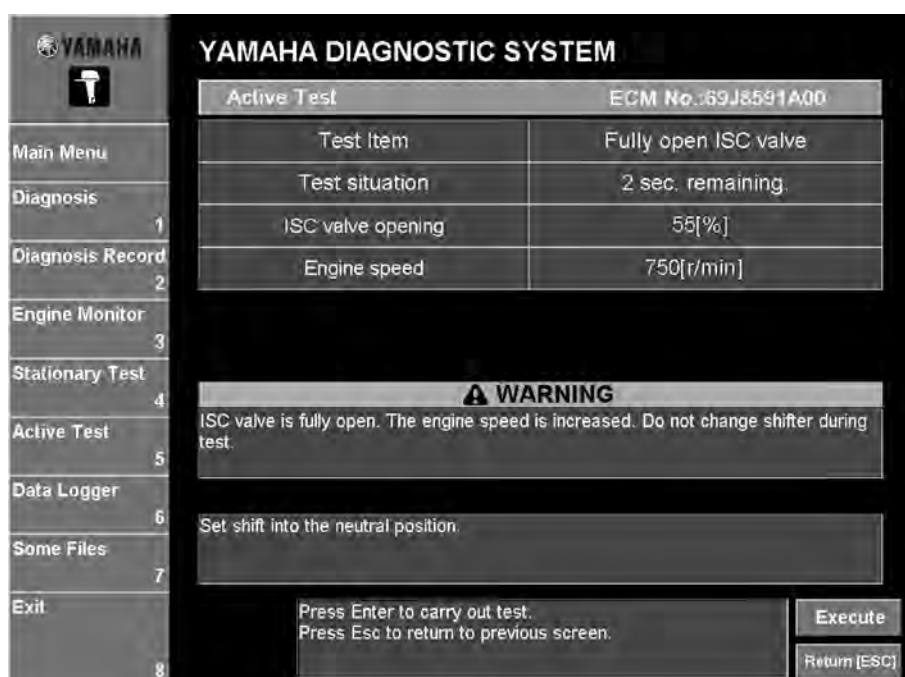

Fig. 101
2. Click the **Execute** button or press the Enter key on your keyboard. (Fig. 101)